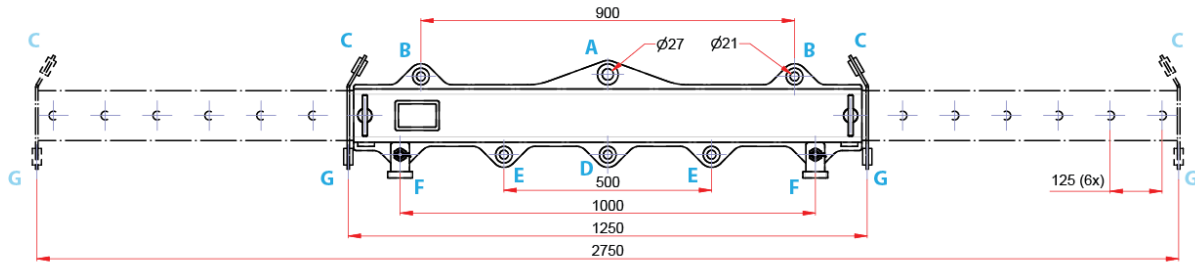

Figure 3: Load possibilities
* The position of the lifting eyes can be found in figure 3 on the next page.